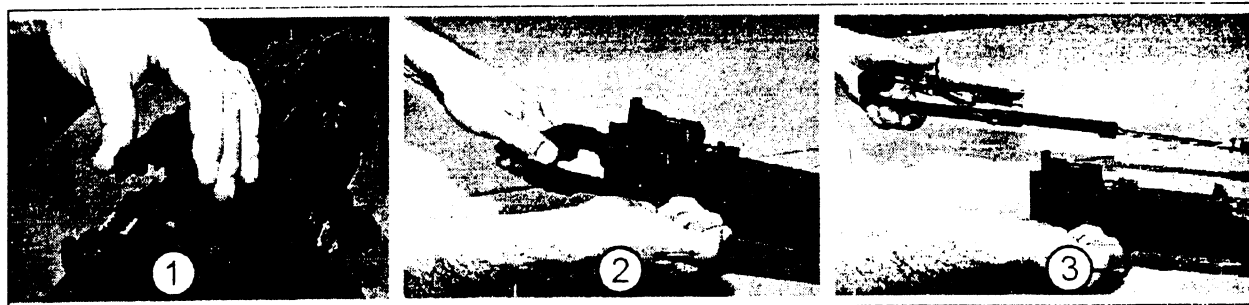

Fig 1-16. Removing the operating group.
(5) **FIFTH**, remove the operating group (see fig 1-16).